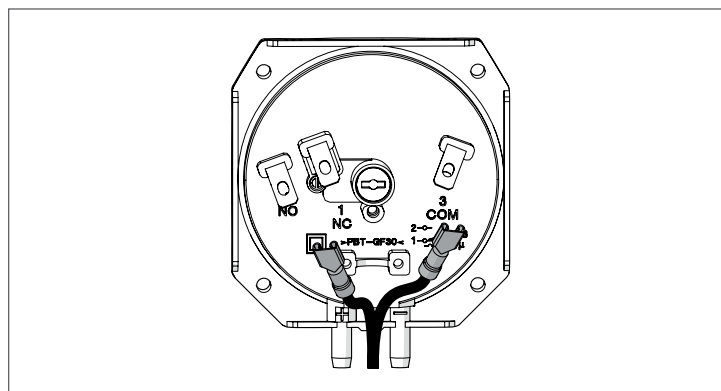
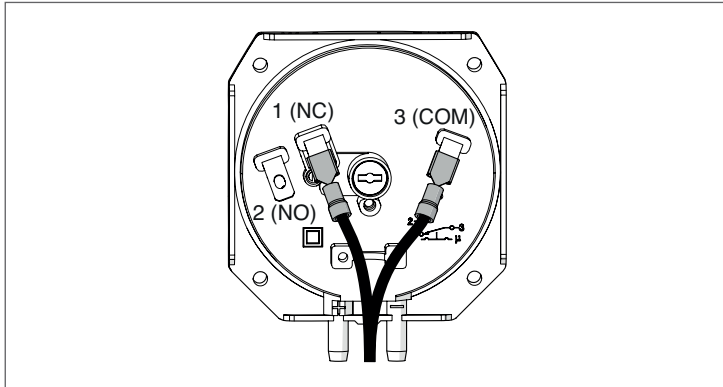

Fig. 61 Disconnect wires
Fig. 64 Wired pressure switch
- Test the pressure switch on the other side of the boiler (module 4 or 8); repeat the process from Fig. 61 through Fig. 64.
- Follow the steps from Fig. 61 through Fig. 64.